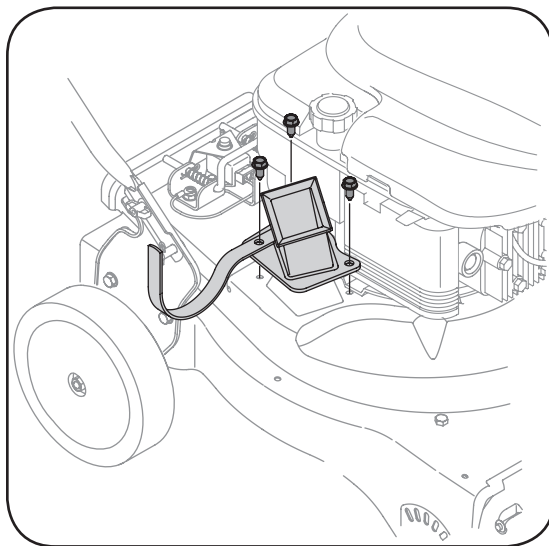

Figure 5-5
3. Remove the three hex cap screws holding the hose hanger bracket and chipper chute to the upper housing. See Figure 5-5.